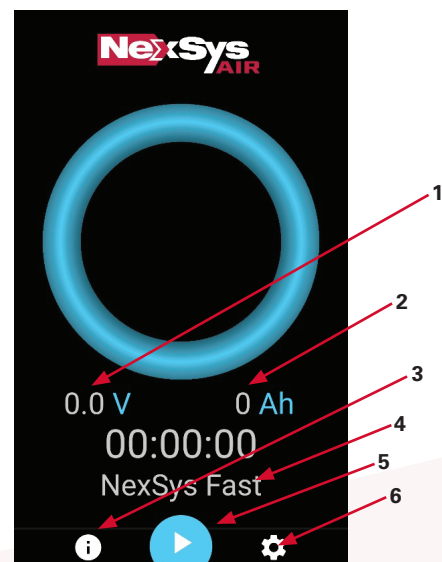

Figure 7
**Main display:** When a secondary pad is correctly aligned to the primary pad (refer to instructions), primary and secondary pad will be automatically paired. The information in **Figure 7** is always shown in the main display.